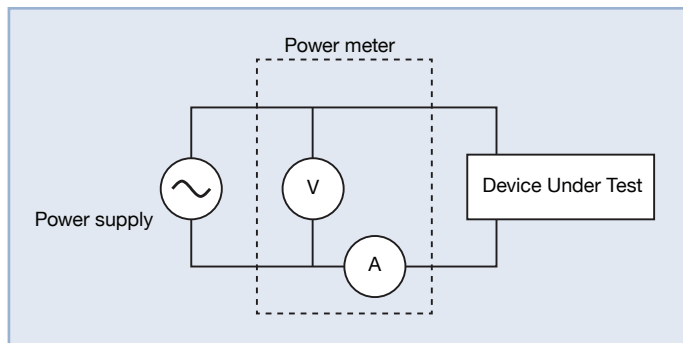

Figure 5. Connection measuring standby power.
- It is recommended to connect the current shunt on the load side for standby power measurement as shown in Figure 5. This will make sure that the current shunt only measures current flowing through the load and the drop across the voltage channel can be ignored. This will ensure minimum errors in low power measurements.